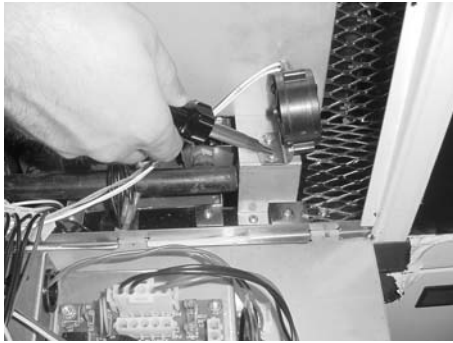

Figure 2-29
3. Remove the 2 screws securing the switch to the heat shield. Figure 2-29.